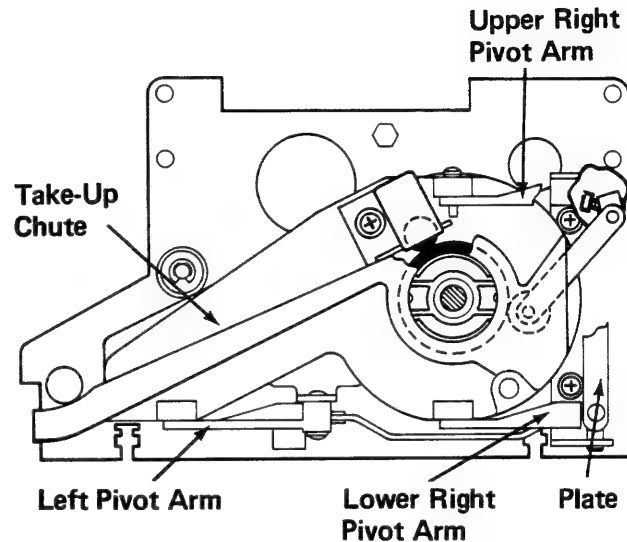
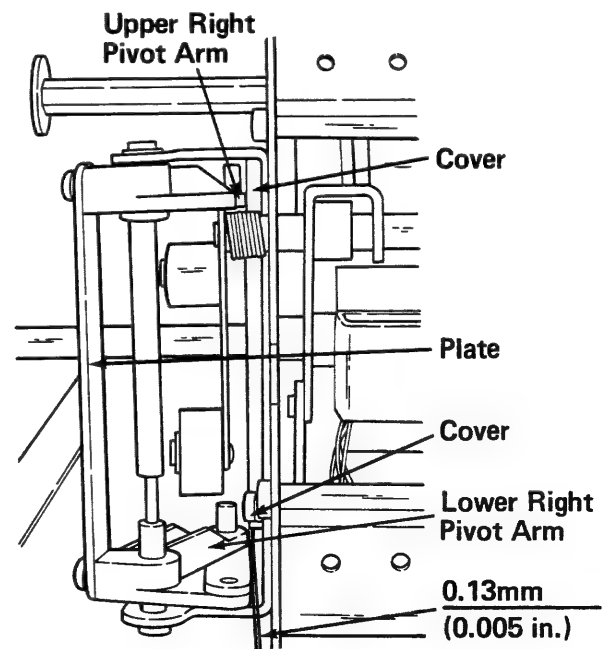

Figure 3-6A
Figure 3-6B
7. Gently push the Left Pivot Arm (Figure 3-6A) in toward the Take-Up Chute Cover until the Upper Right Pivot Arm touches the plastic Cover (Figure 3-6B).
8. Check the position of the Lower Right Pivot Arm. The arms are parallel if it is aligned with the Cover within 0.13 mm (0.005 in.). If it has gone under the Cover or has not yet reached the Cover, it is not aligned. See Figure 3-6A.
1. Using two pliers grasp the Plate near the top and bottom and gently twist the Plate as necessary so the Upper Right Pivot Arm and the Lower Right Pivot Arm are vertically parallel with each other within 0.13 mm (0.005 in.). See Figure 3-6B.